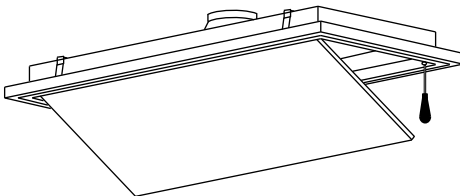

Fig 7
4. Make sure the hanger hooks are in position and tighten the screws to clamp the hood to the ceiling (Fig 7).